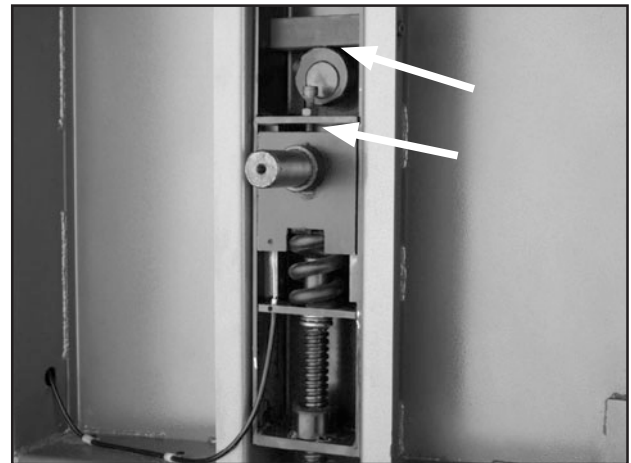

Figure 80. Example of tension adjustment assembly locations (top wheel removed for clarity).
4. Apply a thin coat of multi-purpose GL2 grease to the tension adjustment assembly and tension lever cam (see **Figure 80**).